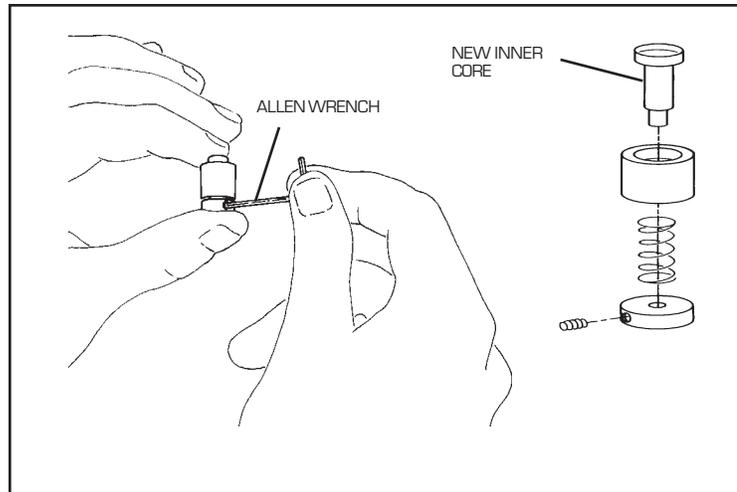

Figure 5.7
7. Insert the new inner core (included with the Autosampler; see Figure 5.7) into the die. Retighten the allen screw.